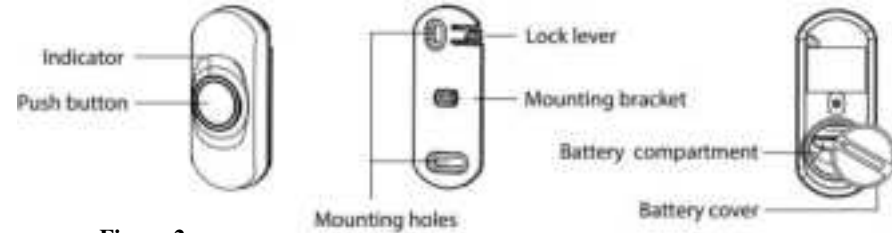

Figure 2
- When the push button is triggered (the center push button is pressed), the center halo will illuminate brightly for approximately 2 seconds (see Figure 2).